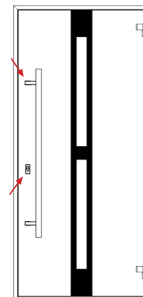

Figure 24.
4. Installing fittings (figure 24)